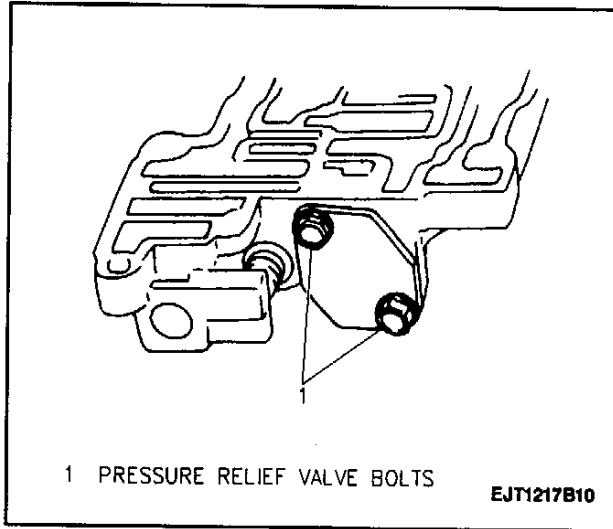

Figure 87—Pressure Relief Valve Bolts (03-72LE, 4-Speed)
4. Secondary valve spring, secondary regulator valve to valve body. Rotate end cover over valve; secure with one remaining bolt (Figure 87).